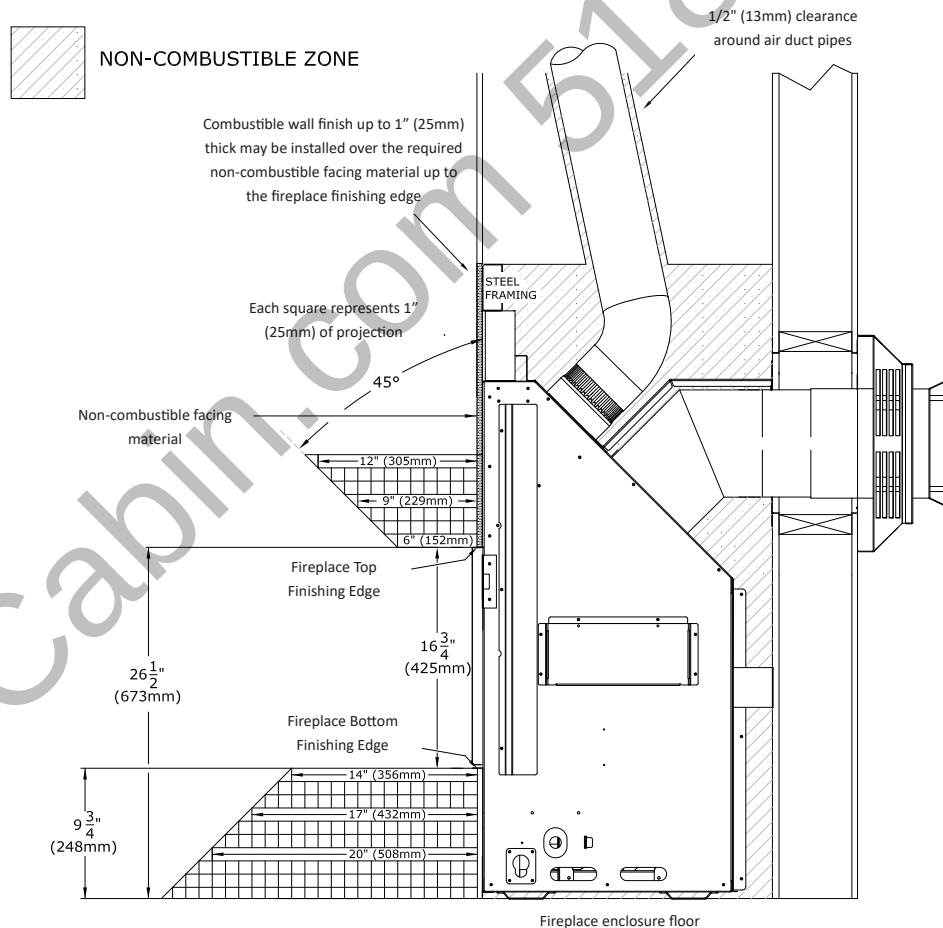

Figure 3.8 - Callaway 50 & Callaway 50 MV Hearth and Mantel Clearances—Shown with no surround
- Combustible Mantel Projections (no surround): As referenced in Figure 3.8, the 6" (152mm) combustible mantel can start at 0" (0mm) from the fireplace top finishing edge. Mantel projections can increase 1" (25mm) of depth for every 1" (25mm) of height starting at the 6" (152mm) mantel. Refer to Section 3.3.1 if you are using an optional surround.